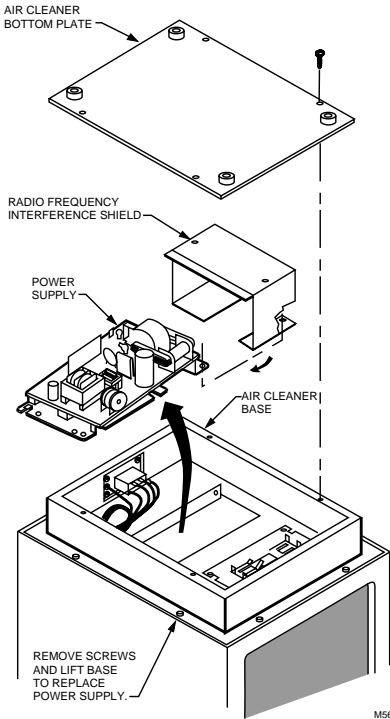

Fig. 17. Replace sheet metal radio interference shield on F59.
- When replacing the power supply in a F59 reinstall the sheet metal radio interference shield as shown in Fig. 17.